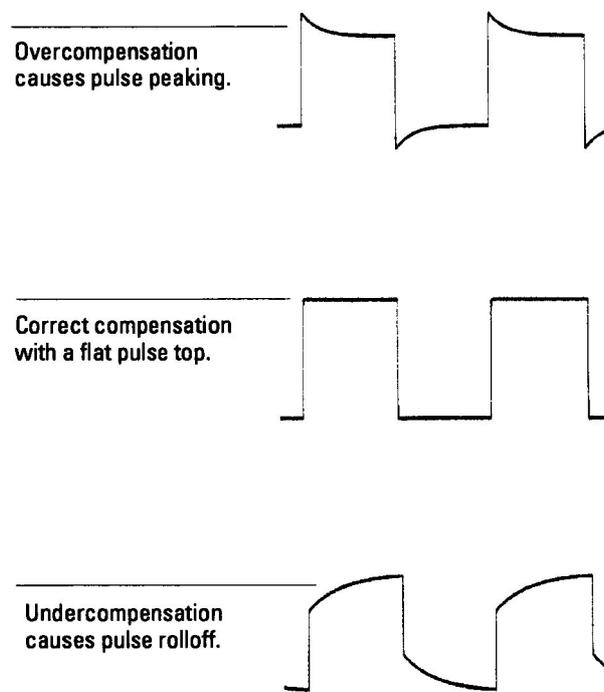

Figure 4: Probe compensation
3. Use a nonmetallic tool to adjust the trimmer capacitor on the probe for the flattest pulse possible as displayed on the oscilloscope, as shown in Figure 4.